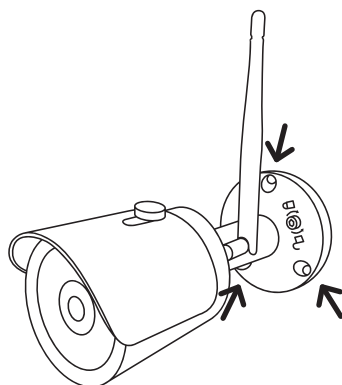

Fig.4
- Hang the camera using 3 expansion plugs and screws provided with the system - Fig. 4.